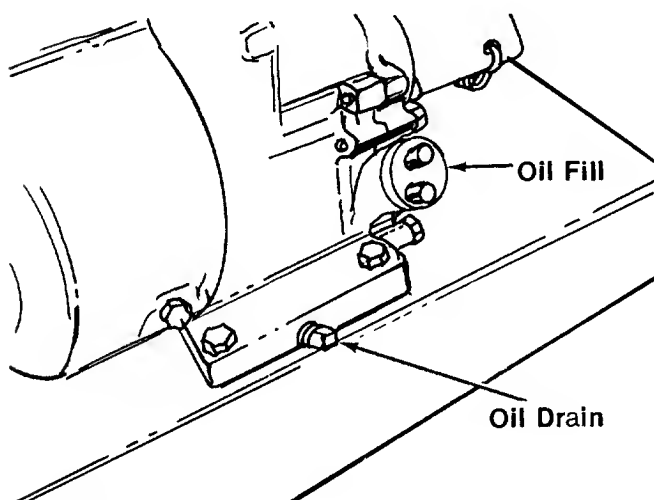

FIGURE 10.
2. Fill crankcase with 1¼ pints of oil or to top of filler neck. Be sure that the engine is level. See figure 10.